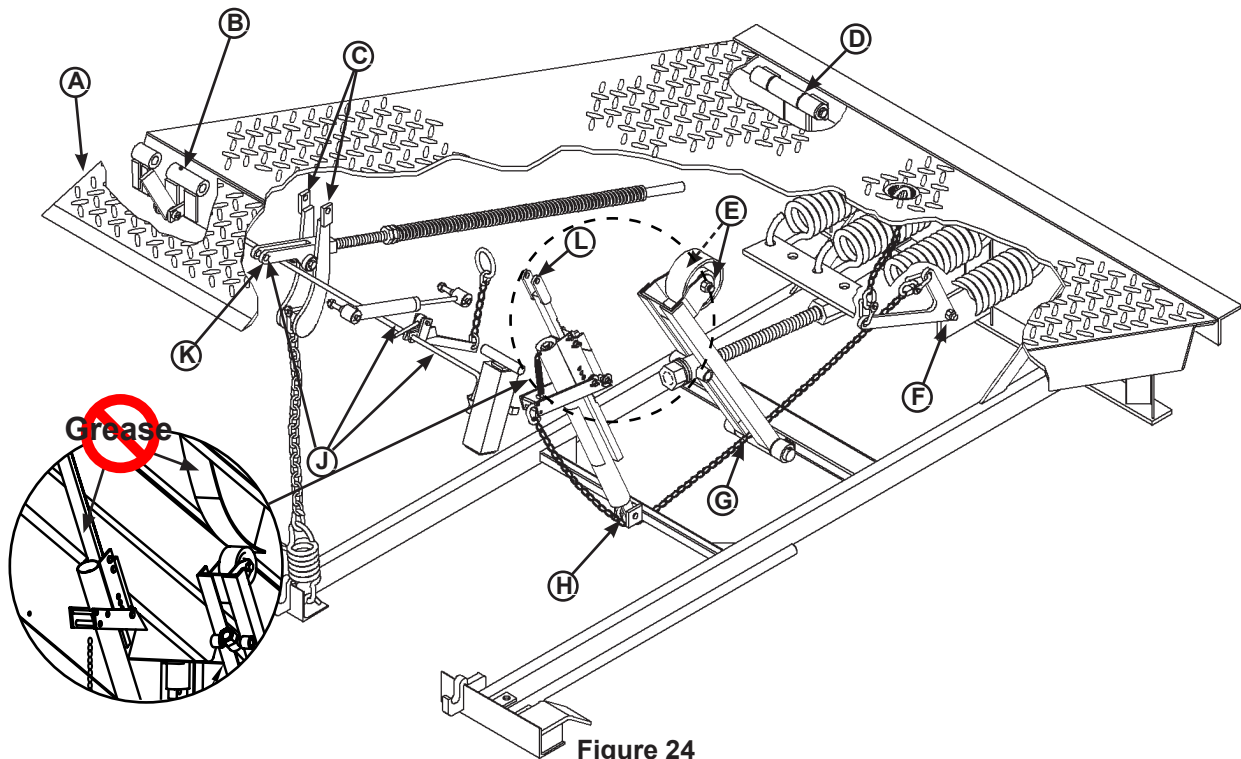

Figure 24
- Lubricate the following areas with lightweight machine oil (See Figure 24):
- (B)— Lip maintenance prop pivot
- (C)— Lip banger pivots
- (F)— E-Z release bellcrank pivot
- (H)— Hold-down pivot/pulley
- (J)— Safety leg linkage pivots
- (L)— Hold down-to-platform pin
- Lubricate the following areas with white lithium grease (See Figure 24):
- (A)— Lip hinge area (inject grease into all the lip hinge grease fittings)
- (D)— Platform hinge area (inject grease into all the platform hinge grease fittings)
- (E)—Lift arm roller bushing (2) grease fittings
- (G)— Lift arm pivot
- (K)— Lip assist pin